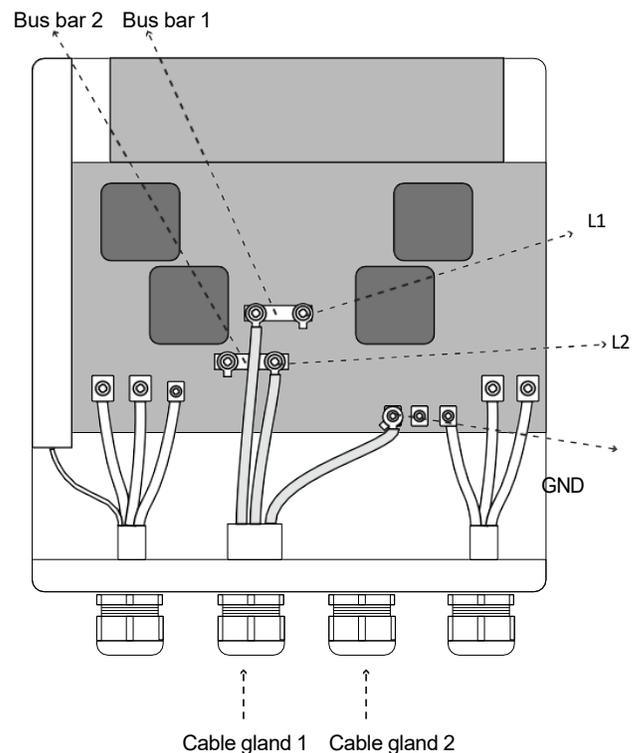

Figure 6
(refer Figure 6)
- Unscrew the cable gland 1 at the bottom of the unit (see Figure 6) and pass the input wire through the cap of the gland into the unit box.
- Do not remove bus bars 1 and 2 (see Figure 6).
- unit board as marked in the Figure 6.